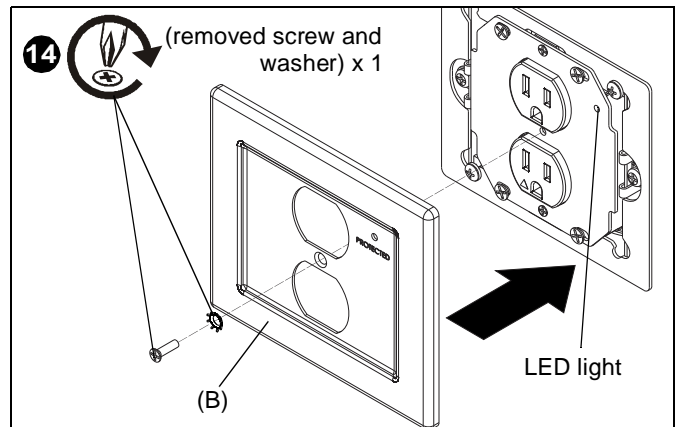

Figure 16
14. Install faceplate (B) onto EGX-SF2 using one Phillips flat head screw and locking washer removed in Step 5. (See Figure 16)
**NOTE:** Make sure LED light on outlet box lines up with hole location on faceplate (B). (See Figure 16)